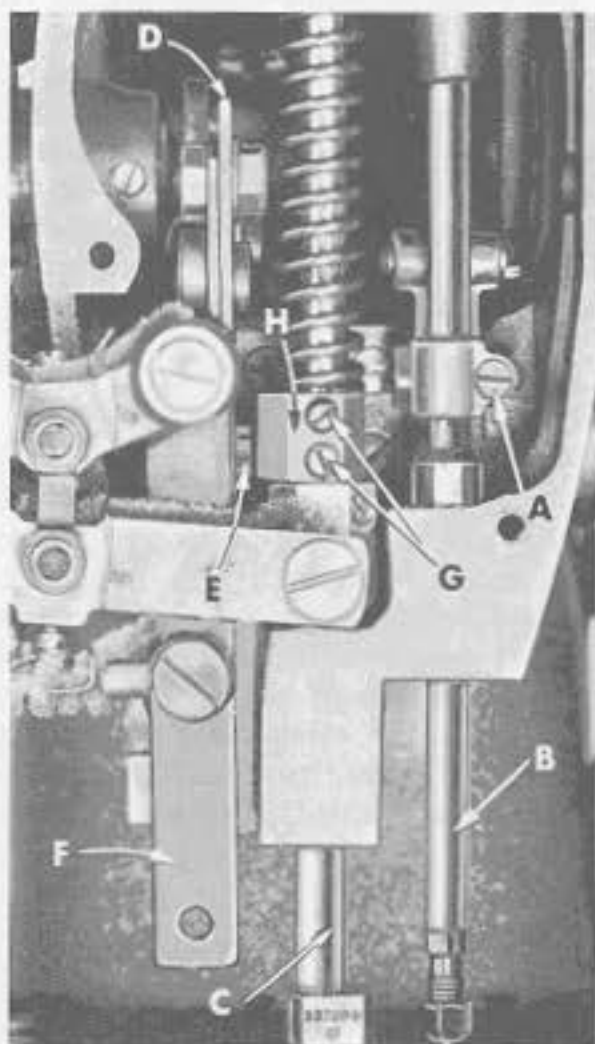
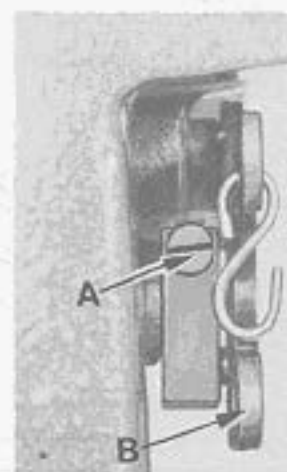

Fig. 3
Fig. 12
needle. If adjustment is necessary, loosen screw (A, Fig. 3) and move needle bar (B) up or down as required and retighten screw (A).
If adjustment is needed, loosen tension release lever screw (A, Fig. 12), located at the back of the machine and move tension disc separator as required. Retighten screw. After adjustment there should be no binding at any point.
The height of the presser bar (C, Fig. 3) is set correctly if it is possible to remove the presser foot when the foot lifter lever (B, Fig. 12) is fully depressed. Also, there should be approximately 1/16 inch clearance between the bottom end of the slot of the lifter link (D, Fig. 3) and the stud (E) located in the upper feed bar (F) when the foot lifter lever is released and the presser foot resting on the throat plate, with the feed dog down below the throat plate.
If adjustment is necessary, turn handwheel in operating direction until the needle bar is in the low position. Loosen screws (G, Fig. 3), then, while holding presser foot down on the throat plate surface, pry up presser bar connection and guide (H) with a screwdriver to obtain the 1/16 inch setting and retighten screws.